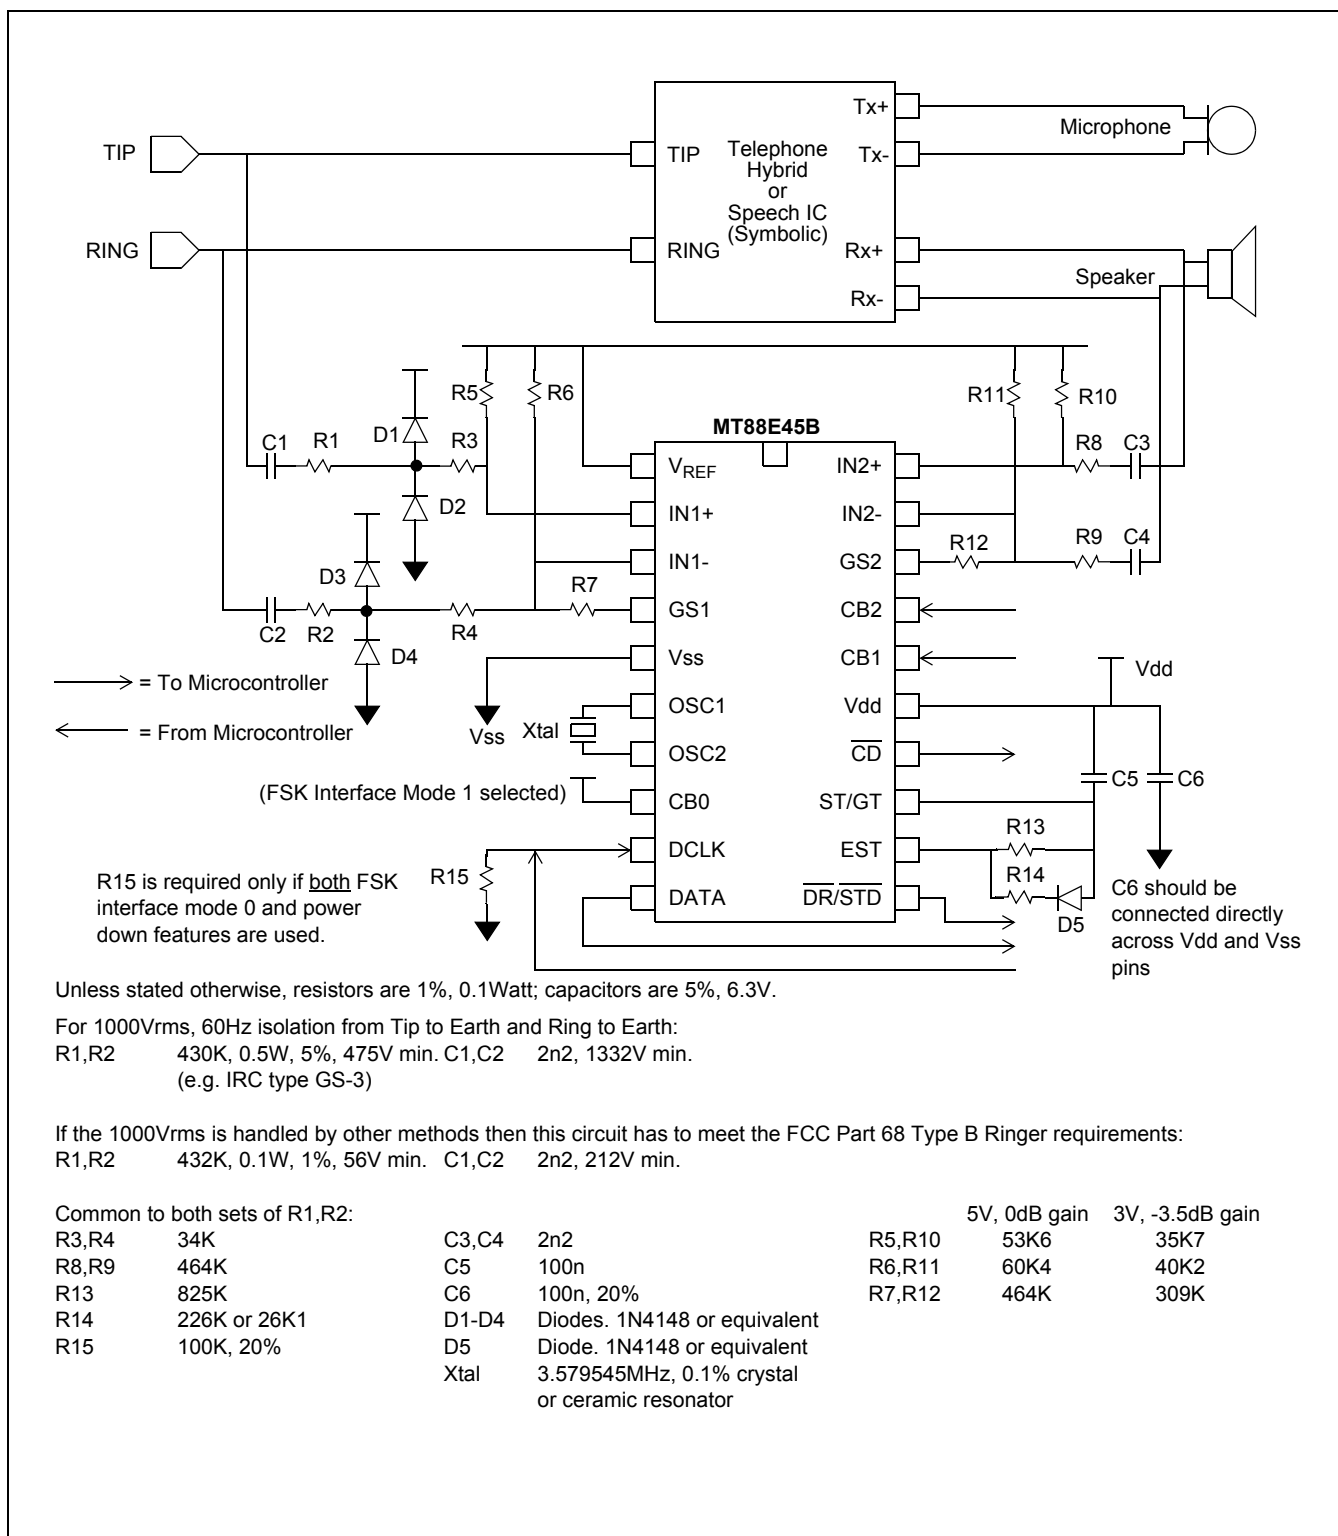

Figure 7 - Application Circuit: Bellcore MEI Compatible Type 2 Telephone
In power down mode both input op-amps, V_{REF} and the oscillator are non functional. DCLK becomes an input because to select the power down state CB0 is 1 which will select FSK interface mode 1. If the application uses FSK interface mode 0 and the MT88E45B needs to be powered down then a pull down resistor should be added at the DCLK pin to define its state during power down (R15 in Figure 7). When the MT88E45B is powered down DATA, $\overline{\text{DR/STD}}$, CD are high; EST and ST/GT are low.
- For the GS1 op-amp, start with the 0dB gain setting resistor values of $R_{5_{0dB}}$, $R_{6_{0dB}}$ and $R_{7_{0dB}}$. In Figure 7 these values are 53K7, 60K4 and 464K respectively. Keep C1,C2,R1,R2,R3,R4 as in Figure 7 to maintain the highpass corner frequency constant for all gain settings.